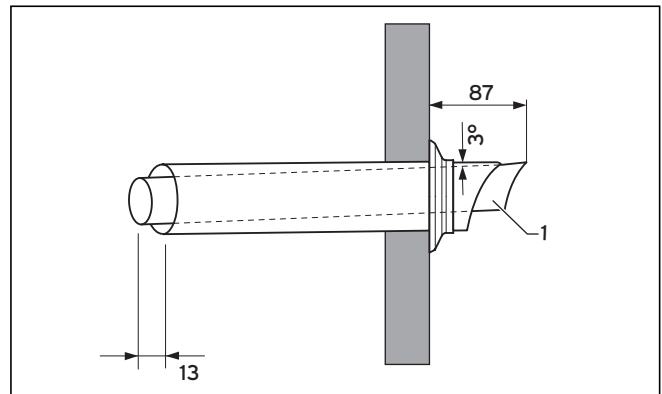

Fig. 2.10 Assembly of the horizontal wall duct
- Push the air/flue duct assembly (1) including the flexible external seal through the wall until the seal clears the outside face of the wall and pull air/flue duct back towards the boiler until the external seal touches the outside wall (fig. 2.6 and fig. 2.10).
- Ensure that the air/flue duct (1) is centred in the hole and the terminal is correctly positioned with the inlet grille at the bottom (fig. 2.6 and fig. 2.10).